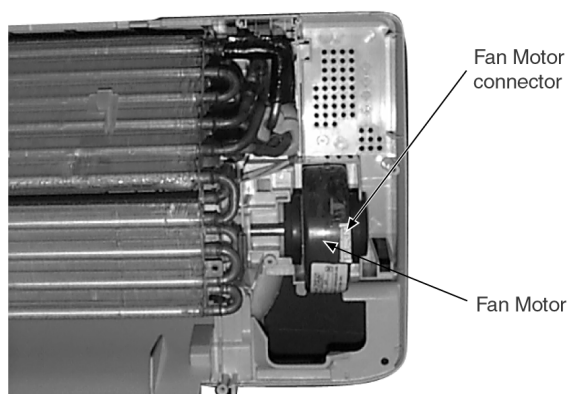

Fig. 6
- Release the Fan Motor leadwire by pressing the hook at the center of the connector. (Fig. 6)